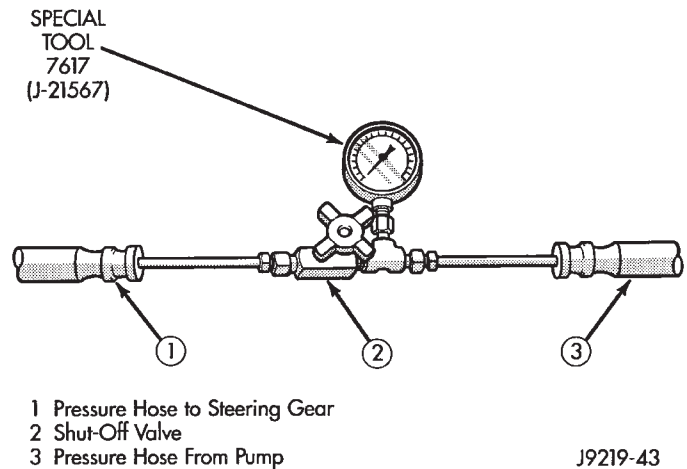

Fig. 1 Pressure Test Gauge
- (1) Check belt tension and adjust as necessary.
- (2) Disconnect high pressure hose at gear or pump. Use a container for dripping fluid.
- (3) Connect Gauge 7617 (J21567) to both hoses using adapter fitting (Fig. 1). Connect spare pressure hose to gear or pump.
- (4) Open the test valve completely.
- (5) Start engine and let idle.
- (6) Check fluid level, add fluid as necessary.
- (7) Gauge should read below 862 kPa (125 psi), if above, inspect the hoses for restrictions and repair as necessary. The initial pressure should be in the range of 345-552 kPa (50-80 psi).